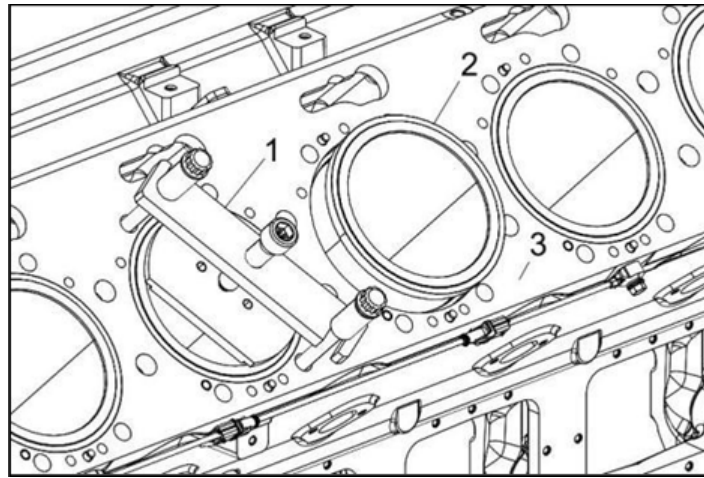

Figure 131.
5. Install the cylinder liner installer (Figure 131, item 1) on the engine block and nest the liner (Figure 131, item 2) using the special tool.